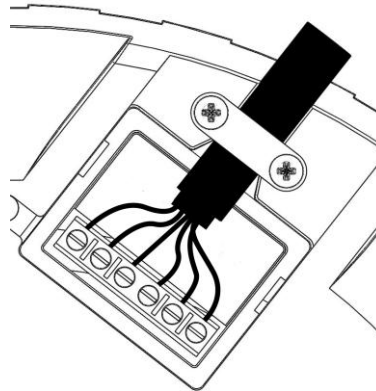

Figure 21 – Securing BMS Wiring(Cable Not Supplied)
- 2.8.7 When wiring has been completed re-apply cable clamp and retain the cable sheath securely in place by tightening the cable clamp down with original screw fixings (*See Figure 21*).